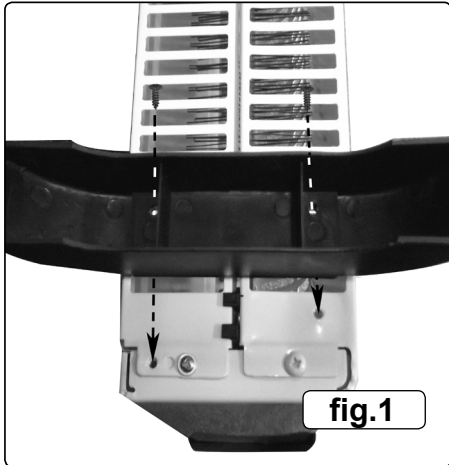

fig.1
- Mounting the feet. (fig.1.)** Turn the heater upside down and support it securely. Take one of the feet and place it onto the underside of the heater in the position indicated in fig.1. When the foot is positioned correctly 2 holes in the foot will line up with the holes in the underside of the heater. Fasten each foot down with the self tapping screws provided.